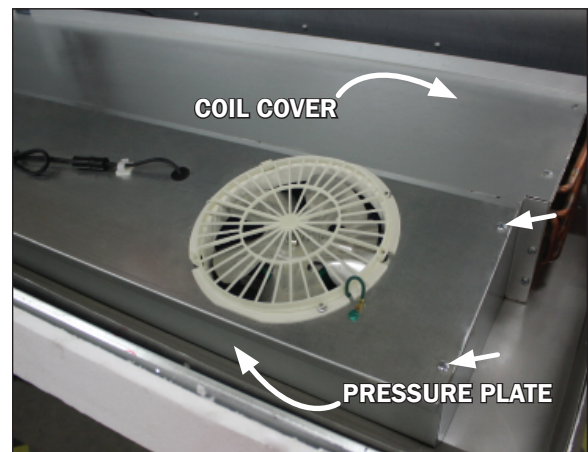
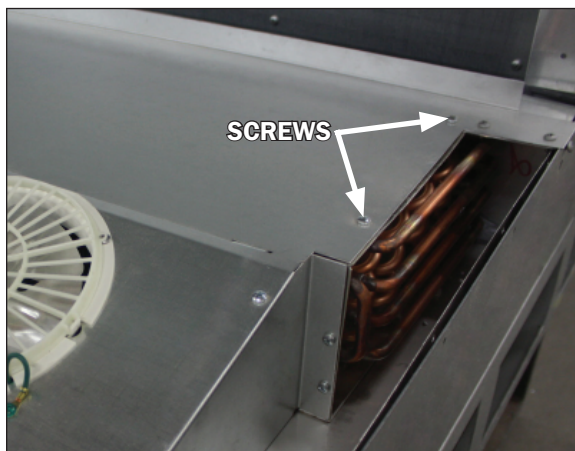

Fig. 15 Pressure plate, screw locations and coil cover (topside)
Fig. 18 Coil cover removal
2. To access the underside of the fans first remove the screws on the top ends and front sill of the pressure plate cover (Fig. 15). Lift the pressure plate by use of the
2. Remove the top two screws at both ends of the coil cover (Fig. 18), as well as the screws from the top ends and front sill of the pressure plate cover (Fig. 15). **Be sure to save the removed screws for reassembly.**